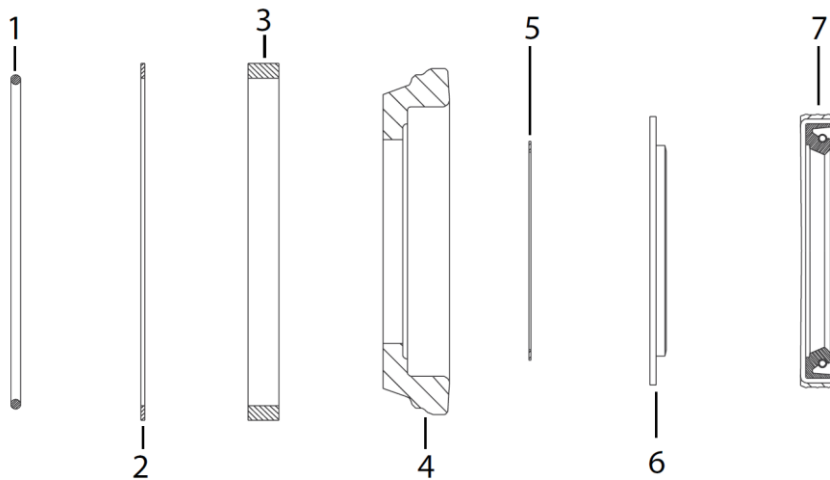

Figure 2 Seal elements with Seal Carrier
3. Place shaft (30) on a clean flat surface with output end facing up.
b) Then place thrust washer (15) on the shaft.
c) Lightly coat seal area of shaft with clean oil and place plastic installation sleeve with shaft seal (7) down onto shaft covering all splines, keyways and wire ring grooves.
d) Slide shaft seal (7) down onto shaft (30) making sure that lip on seal faces down (See Figure 2 for correct seal orientation) until it contacts thrust washer (15).
f) Carefully install the backup seal (6) onto the shaft (30) with the flat side up and the seal lip facing the shaft seal (7).
g) Place the metal backup shim (5) onto the shaft and against the backup seal (6).
h) Place the seal carrier (14) onto the shaft (large end down) and carefully press the seal carrier (14) down onto the seal assembly using an arbor press and sleeve to compress the seals into the carrier.